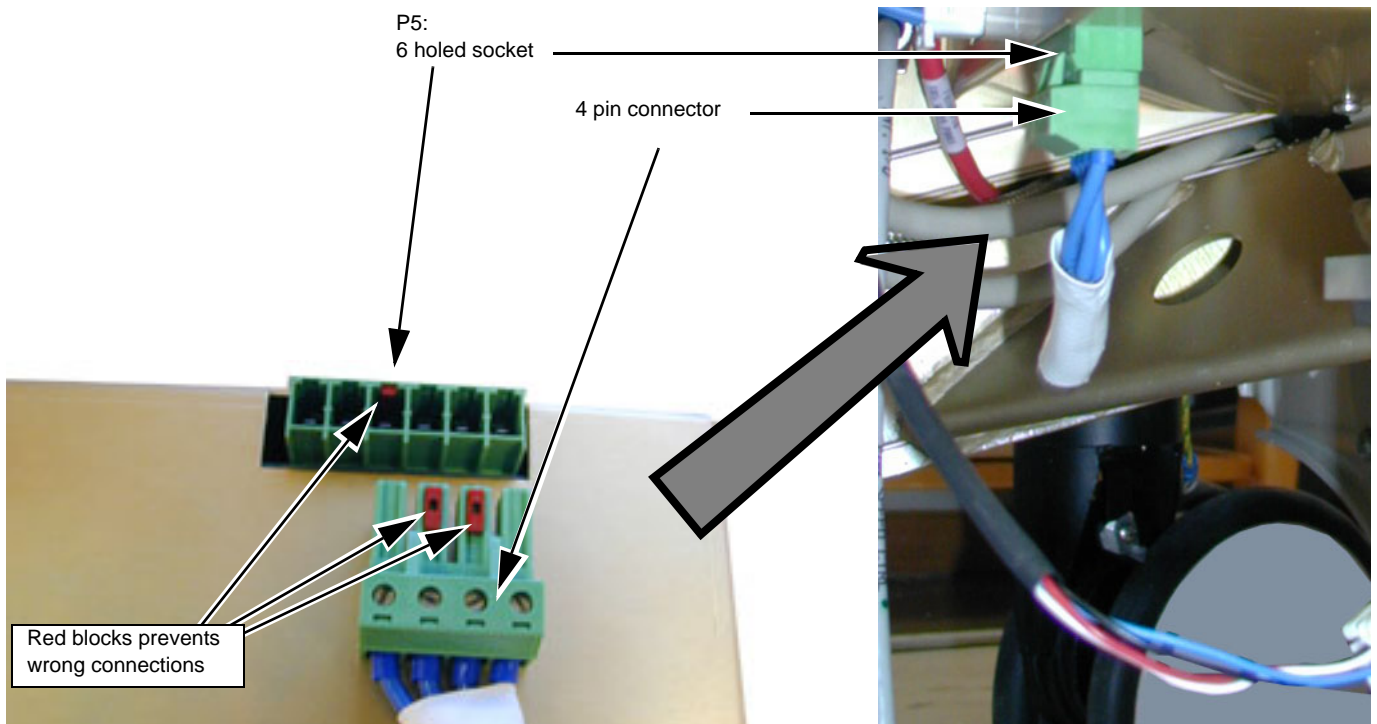

Figure 8-82 Input Voltage connector/socket
- 1.) Connect the cables. You may need to leave the Speed Control cable and the Fan cable unconnected until you have fastened the unit. Input Voltage connector and socket are coded to prevent mistakes. In 115V system the connector matches one end of the 8-holed socket. In 230V system it matches the other end of the socket. Figure 8-82 is on a 230V system, and the connector can only be plugged in the right end of the socket.